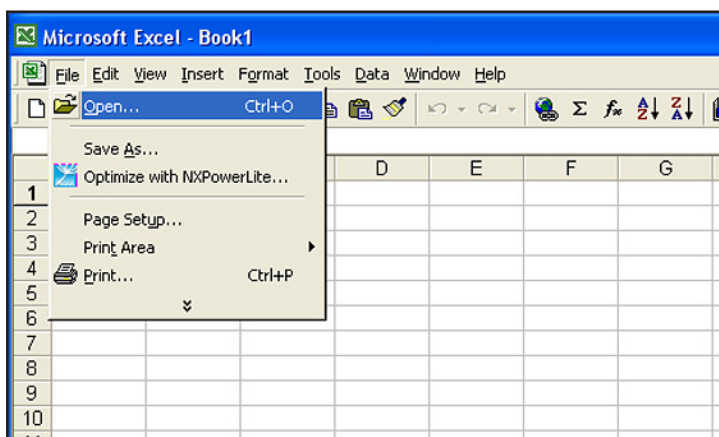

Figure 57: Opening a Log File in Microsoft Excel
4. The dew.IQ log files can be opened with a spreadsheet program, such as Microsoft Excel. Launch the spreadsheet program and select **Open** (see *Figure 57* below).